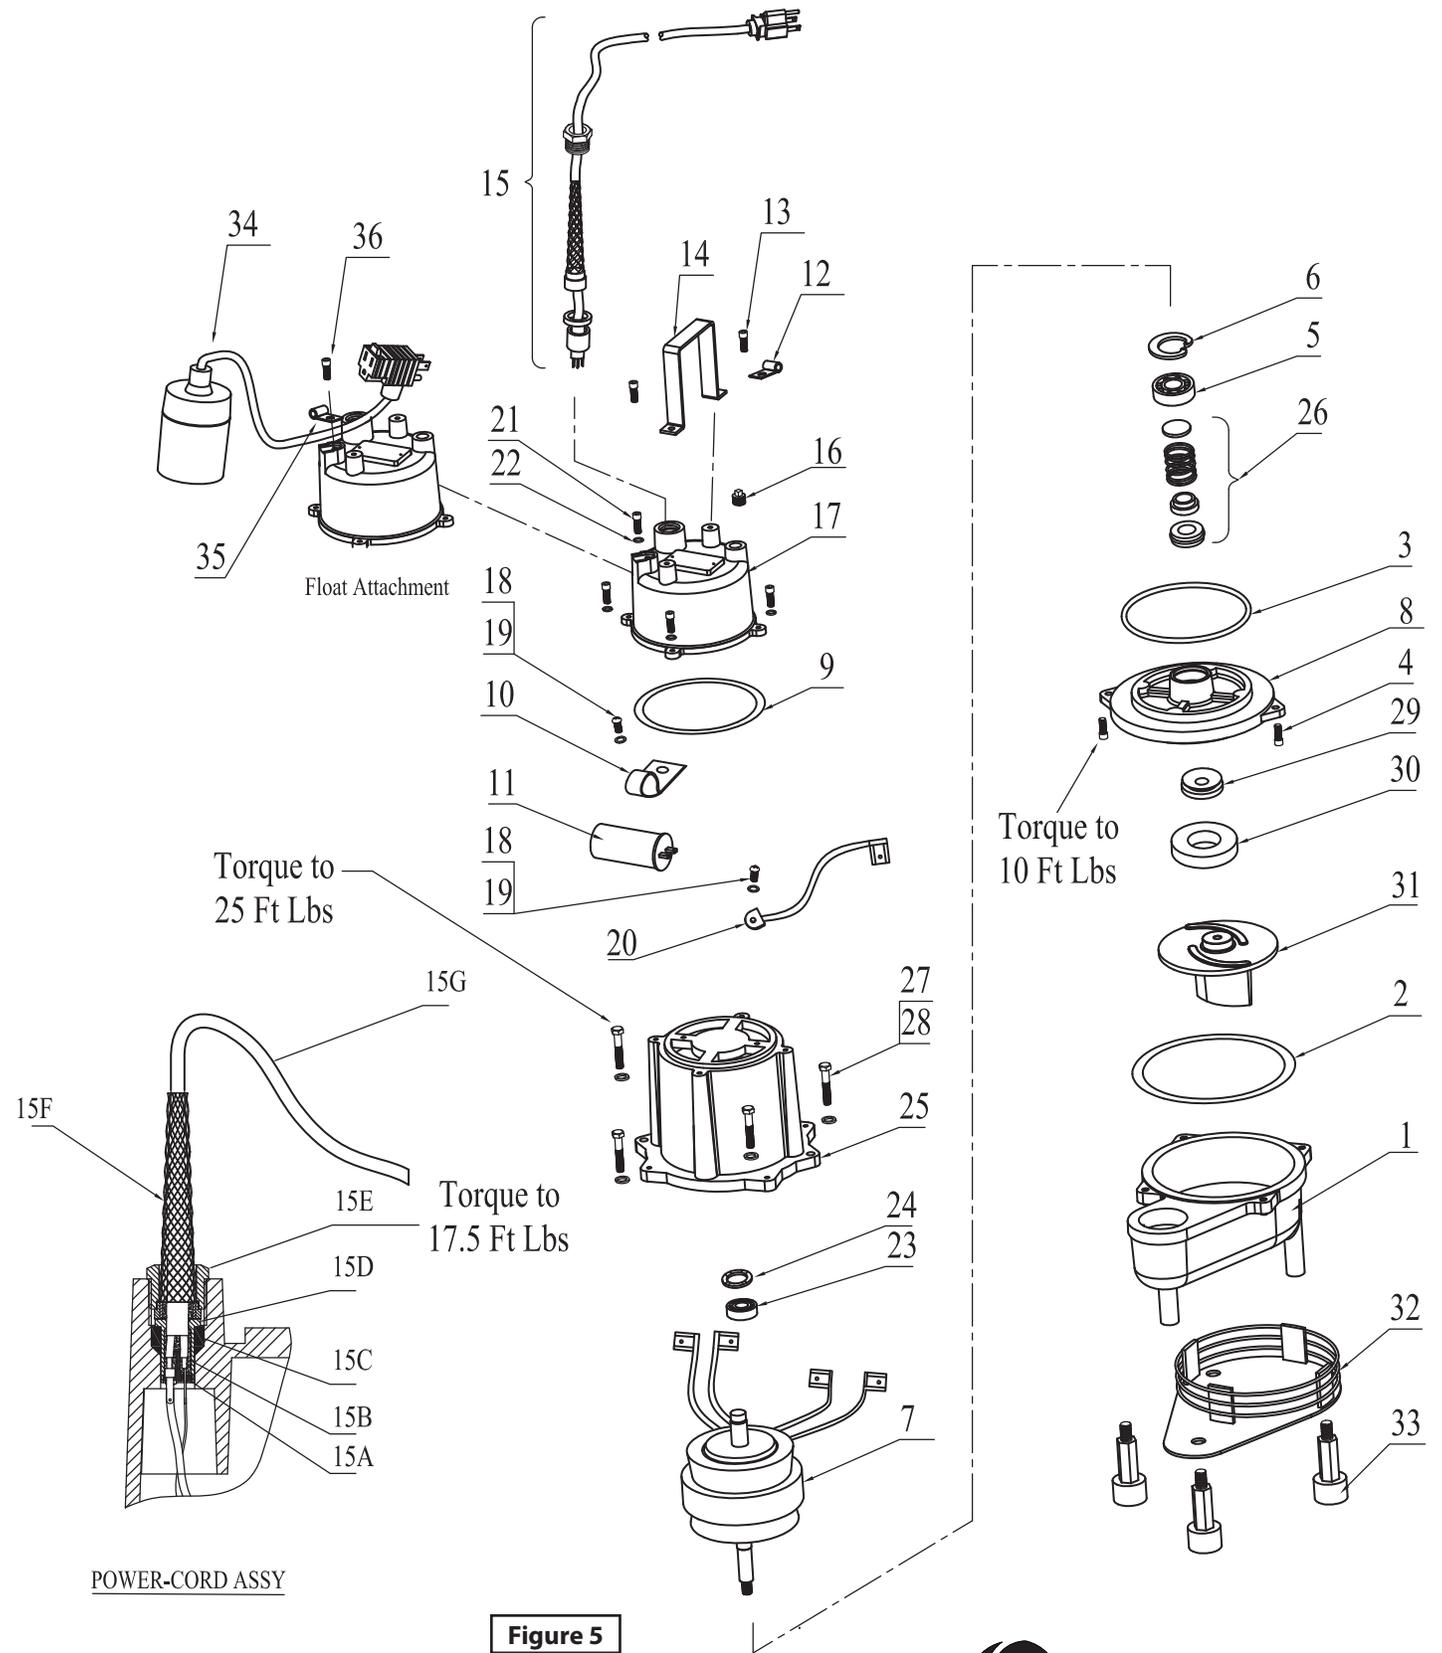

Figure 5
NOTE: Item numbers in () refer to Figure 5.
19. Attach float (34) to upper motor housing (17) with cable clamp (35) and screw (36). Leave a minimum tether of 3.50 inches from cable clamp to end of float. (see Fig. 5 on page 9 and also page 4)